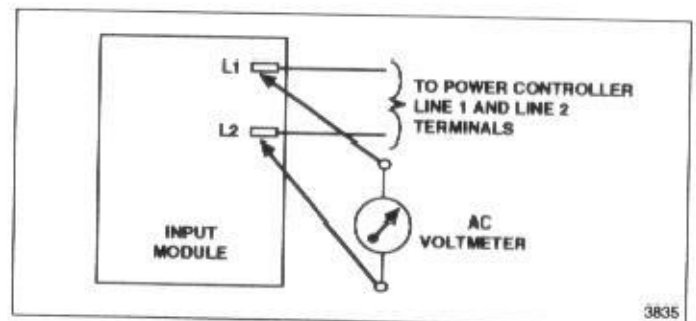

Figure 5-8. Input module line voltage verification.
2. Using an AC voltmeter, verify that line voltage is present at the input module's L1 and L2 terminals (see figure 5-8).